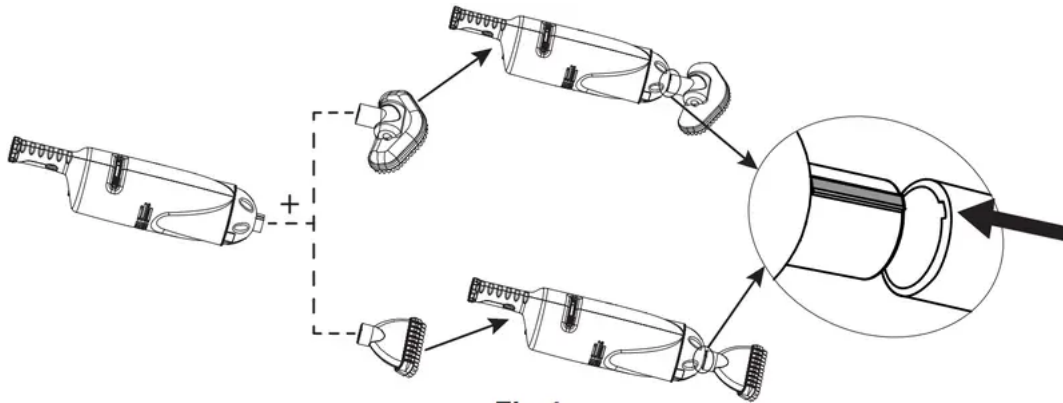

Fig 4
3. Attach the desired cleaning head accessory to the vacuum body cover. See fig 4. **Note:** The ridge on the vacuum body cover (3) matches the groove on the end of the vacuum brush head (4) or vacuum nozzle (5).